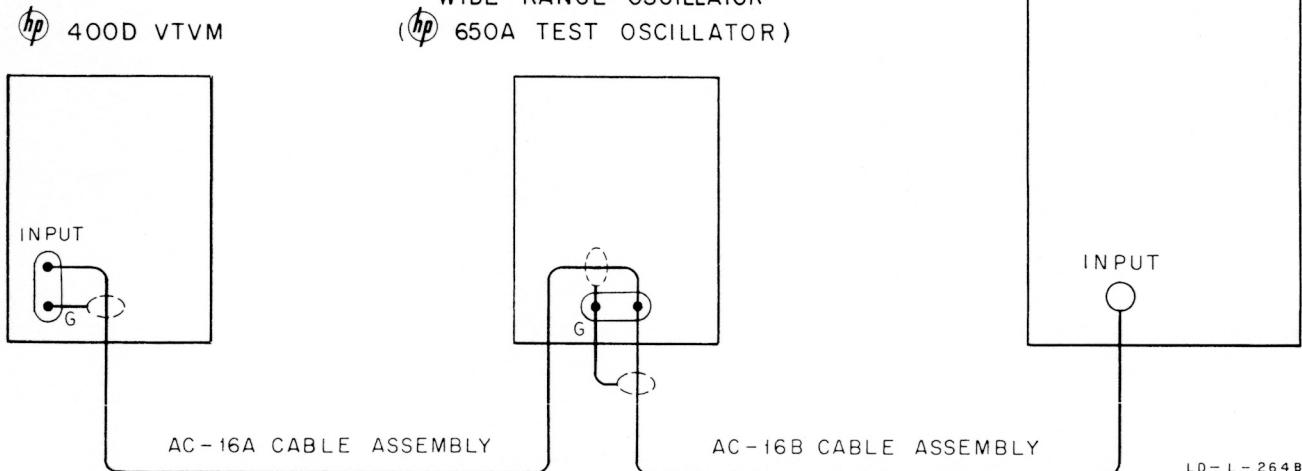

Figure 4-1. Equipment Setup for Sensitivity and Top Frequency Check
- 2) Connect output of test oscillator to INPUT connector of 521's and monitor oscillator output with voltmeter. See Figure 4-1.